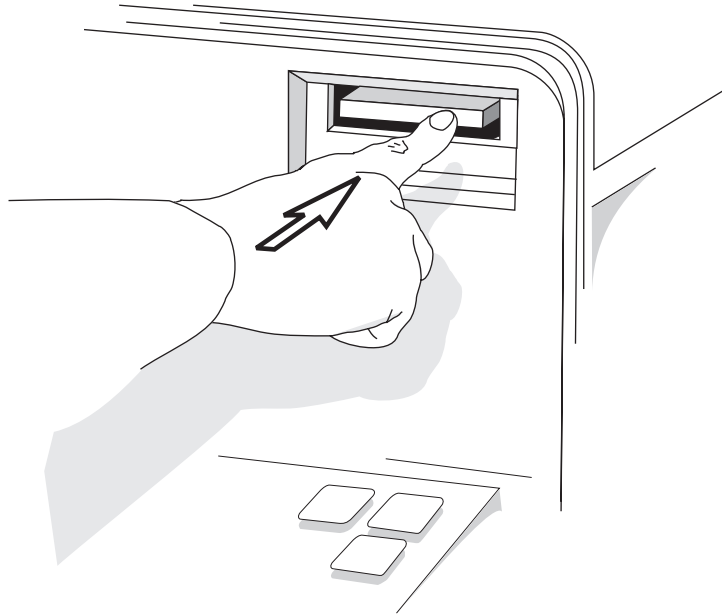

Figure 3-2
- When the “Insert Tape” prompt displays, insert the tape. *See Figure 3-2.*